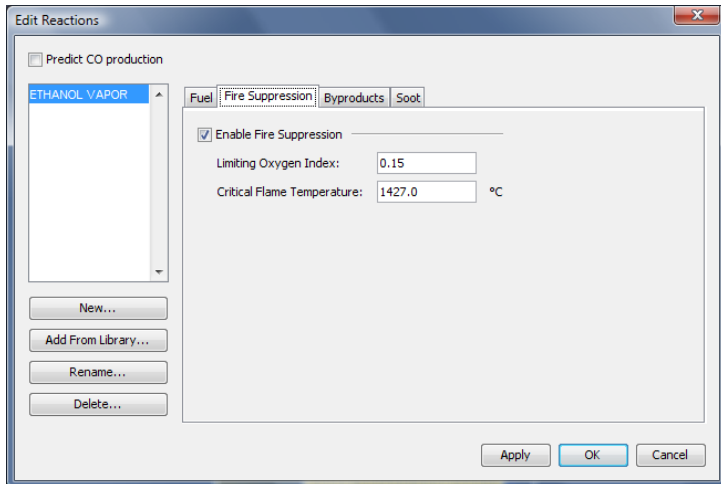

Figure 11.3. Fire Suppression panel of the Edit Reactions dialog
4. On the **Fire Suppression** tab, you can enable fire suppression and then enter values for the **Limiting Oxygen Index** ($X_{O_2_LL}$) and the **Critical Flame Temperature** ($CRITICAL_FLAME_TEMPERATURE$). The default values are shown in Figure 11.3.